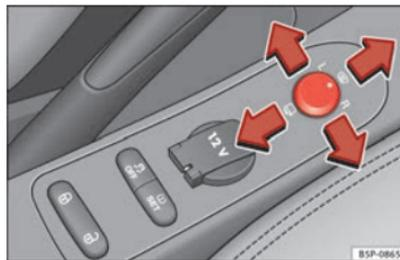

Fig. 84 Exterior mirror control.
1. Turn knob ⇒ Fig. 84 to position **L** (**left exterior mirror**).
- Turn the knob forwards ⇒ Fig. 84 so that the heated rear vision mirrors warm up and the heated windscreen* in the wiper blade rest area is activated ⇒ page 106.
- Turn the control ⇒ Fig. 84 to position  to fold in the exterior mirrors. You should always fold in the exterior mirrors if you are driving through an automatic car wash. This will help prevent damage.